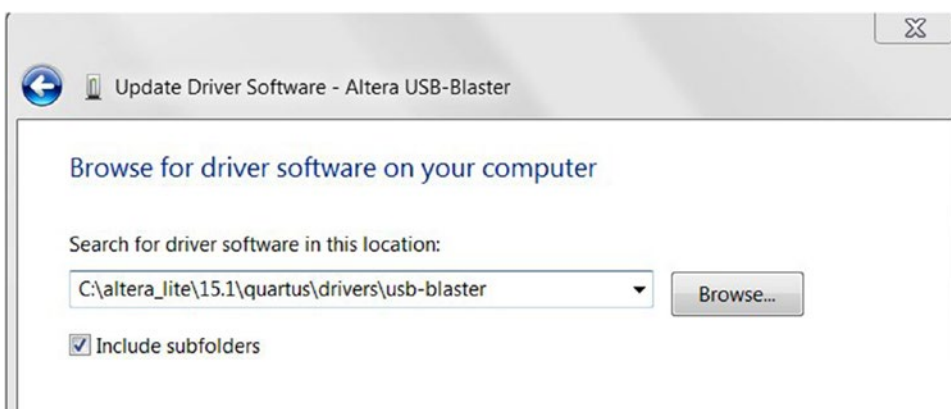

Figure 4-54. Update Driver Software - Altera USB-Blaster
6. Click **Browse**, and browse to the `C:\altera_lite\15.1\quartus\drivers\usb-blaster` directory. Note: Do not select the x32 or x64 directories. Click **OK**. Select the **Include subfolders** option, and click **Next** (Figure 4-54).